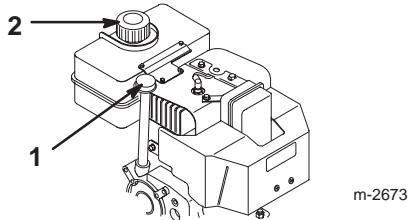

Figure 13
2. Clean around the dipstick (Fig. 13).
3. Remove the dipstick by rotating the cap counterclockwise and pulling it out (Fig. 13).
1. Clean around the fuel tank cap (Fig. 13).